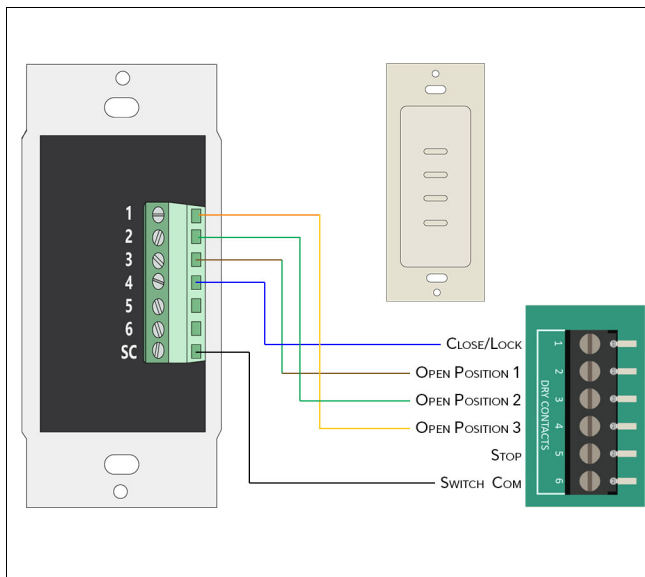

Figure 9
**1. 4 Button Switch Example:** This switch connects one of its 1-4 terminals to its “SC” terminal when the associated button is pressed. This will result in a switch that will control the window to 3 different open positions when pressing one of the top 3 buttons or to close and lock when pressing the bottom button. See Figure 9.